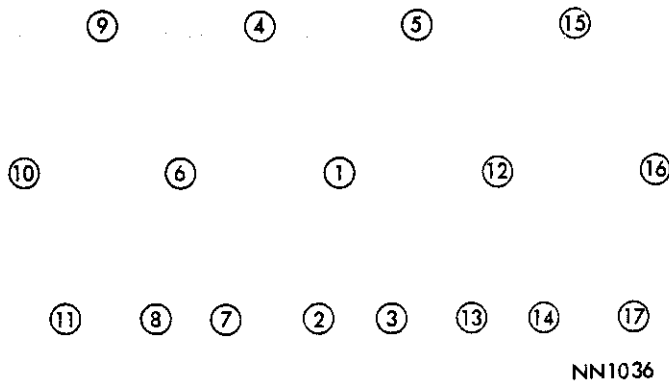

Fig. 7—Cylinder Head Tightening Sequence
(2) Position the rocker shaft support brackets on the cylinder head and install the five long cylinder head bolts into rocker shaft support brackets and cylinder head, lining up all push rods to their respective rocker arms.
(3) Starting at the center, tighten all head bolts and stud nuts to 50 foot-pounds in sequence shown in Figure 7 then repeat the procedure, tightening to 75 foot-pounds in the same sequence.
(4) Adjust tappets. See "Tappet Adjustment Procedure."
(5) Install exhaust headers with new gaskets and tighten to 35 foot-pounds.
(6) Place new cylinder head cover gaskets in position and install cylinder head covers. Tighten nuts to 40 inch-pounds.
(7) Adjust spark plug gaps to .035 inch. Slide spark plug tube seals over tubes. With a six inch extension on a spark plug socket insert spark plug, slide spark plug tube over assembly, insert assembly in cover and cylinder head, being careful not to drop plug as this would change gap setting. Tighten spark plugs to 30 foot-pounds.